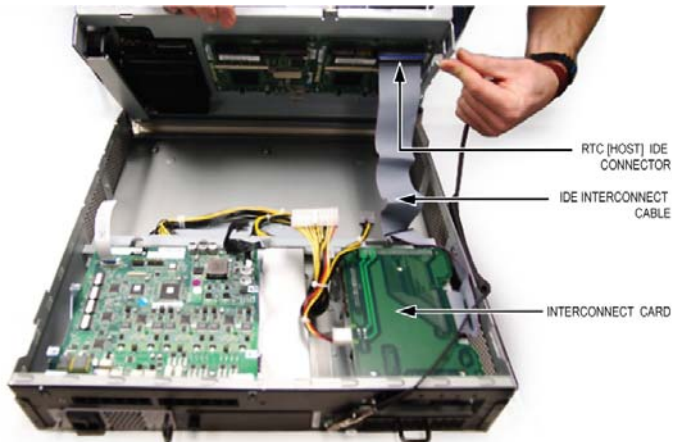

Figure 74: Disconnecting the IDE Interconnect Cable - MXe II/Server
- For the MXe II, disconnect the IDE interconnect cable from the RTC (host) IDE connector (see Figure 74).